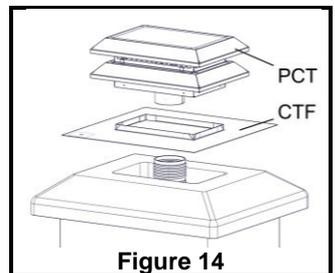

Figure 14
11. A cap must be present at the top of the masonry chimney to keep out rain. If relining the chimney, you can install the Coaxial Termination (PCT) for a traditional masonry look (Figure 14) or use the cap from the flex liner manufacturer. If you are not relining the chimney, the existing cap should be adequate if it is in good condition.
If a traditional style cap is desired, the Traditional Coaxial Chimney Cap (PCT) is available (Figure 14). A flashing must be ordered separately (CTF or CTFC). Connect the liner to the extension on the base of the traditional style cap. The flashing can be modified to fit the chimney top or flue tile. Secure the flashing and cap in place.